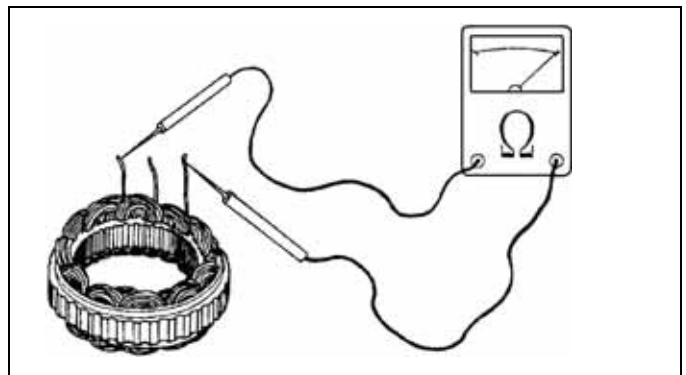

Fig. 5-18
- a. Check for continuity between the leads of the stator coil, page 5-7, Fig. 5-18. If there is no continuity, the stator coil is defective. Replace the stator assembly.